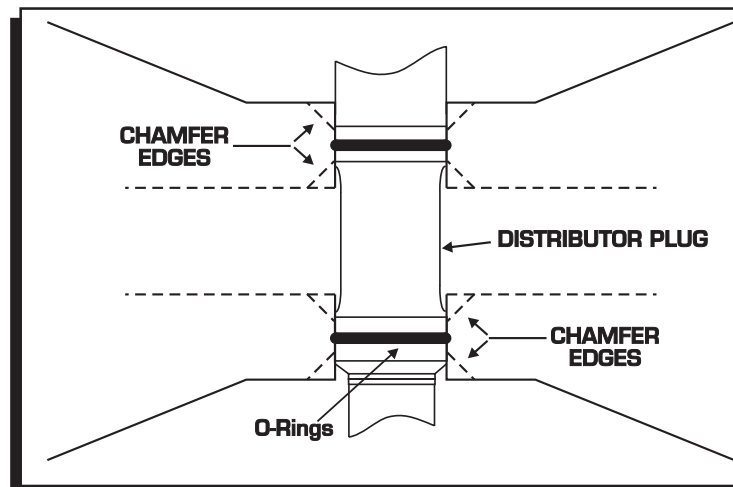

Figure 9 Modified Block for use with O-Rings.
7. With the slip collar adjustment set, install the gasket and O-rings (if necessary). The O-rings can only be used if the block has been modified as shown in figure 9.